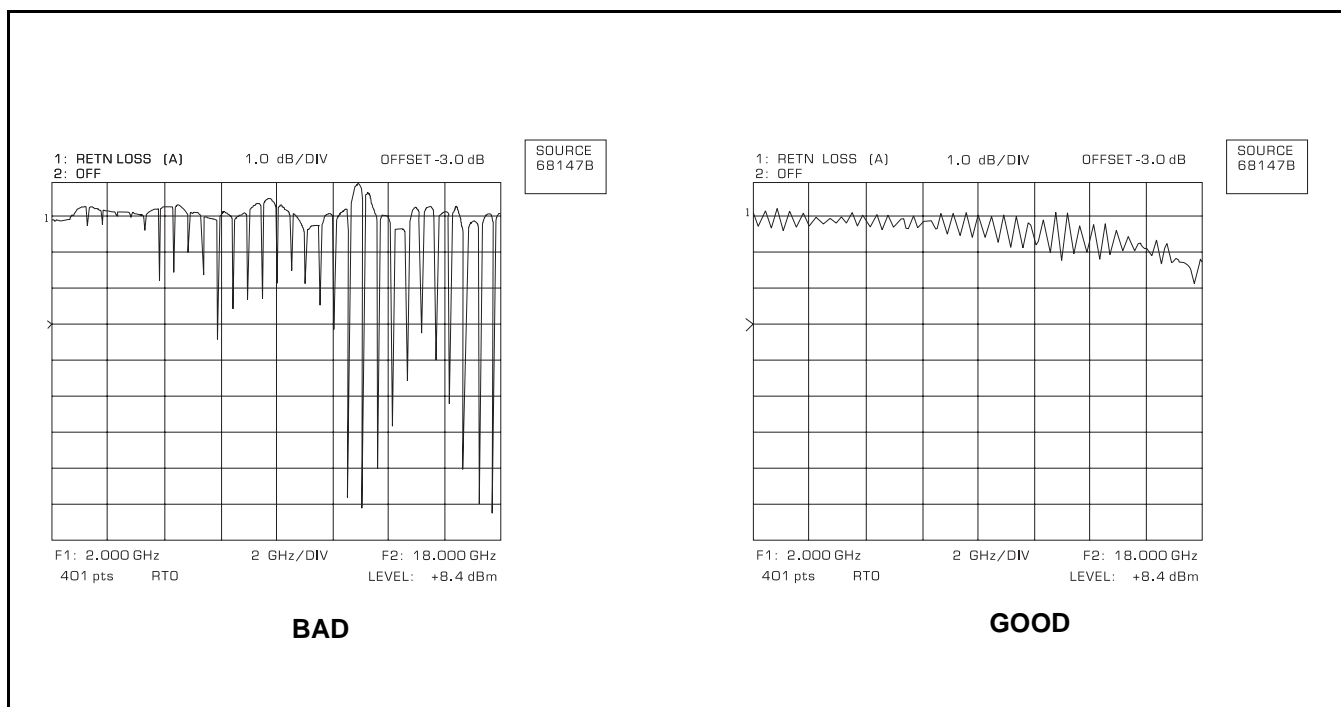

Figure 6. Examples of Good and Bad Air Line Connections
15. Connect beadless end of air line to test port on SWR Autotester, paying careful attention to making a good connection. The displays shown in Figure 6 indicate good and bad connections.